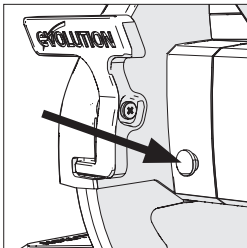
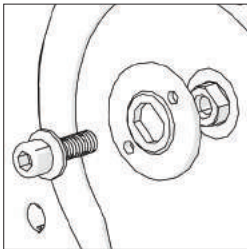

Fig. 26
Fig. 27
**Warning:** The arbor screw has a LH (Left Hand) thread. Turn clockwise to loosen. Turn counterclockwise to tighten. Press & keep pressing the arbor lock button on the motor housing while turning the arbor screw using the supplied hex key until the button locates fully into the shaft and locks the shaft (Fig. 26). Continue to remove the arbor screw, and outer blade flange (Fig. 27). Release the arbor lock button.
Press & keep pressing the arbor lock button on the motor housing while tightening the arbor screw using the supplied hex key until the button locates fully into the shaft and locks the shaft **(Fig. 26)**.